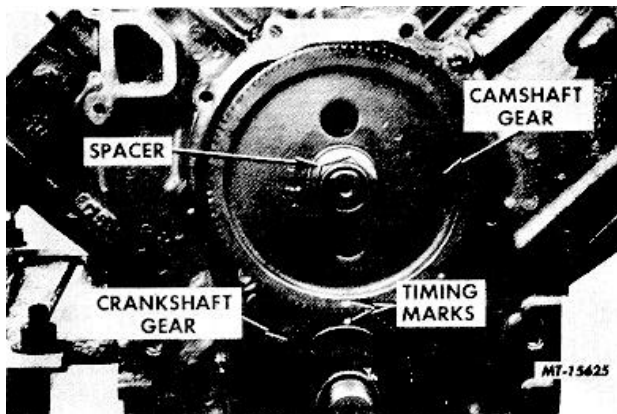

Fig. 156 Aligning Timing Marks on Camshaft and Crankshaft Gears
- d. Align timing marks on camshaft gear and crankshaft gear (Fig. 156) and position camshaft into camshaft bushings. Remove installer tool.